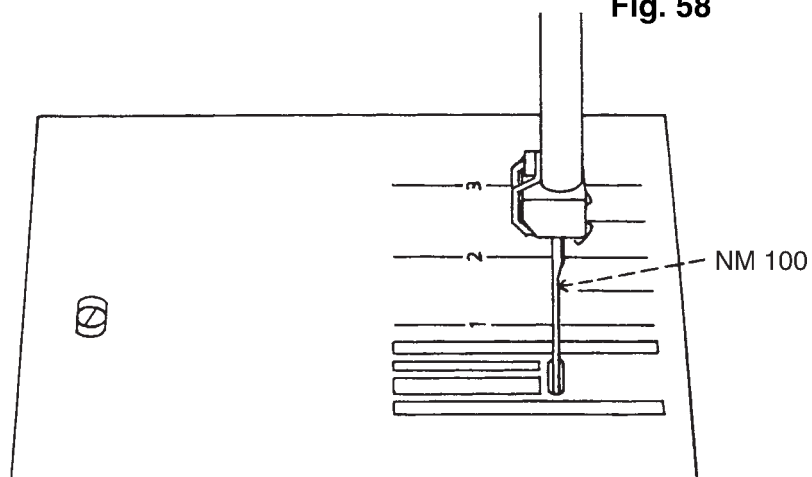

Fig. 59
- Turn the setting eccentric until the clearance from the front and rear edge of the needle plate slot is the same (fig. 59).